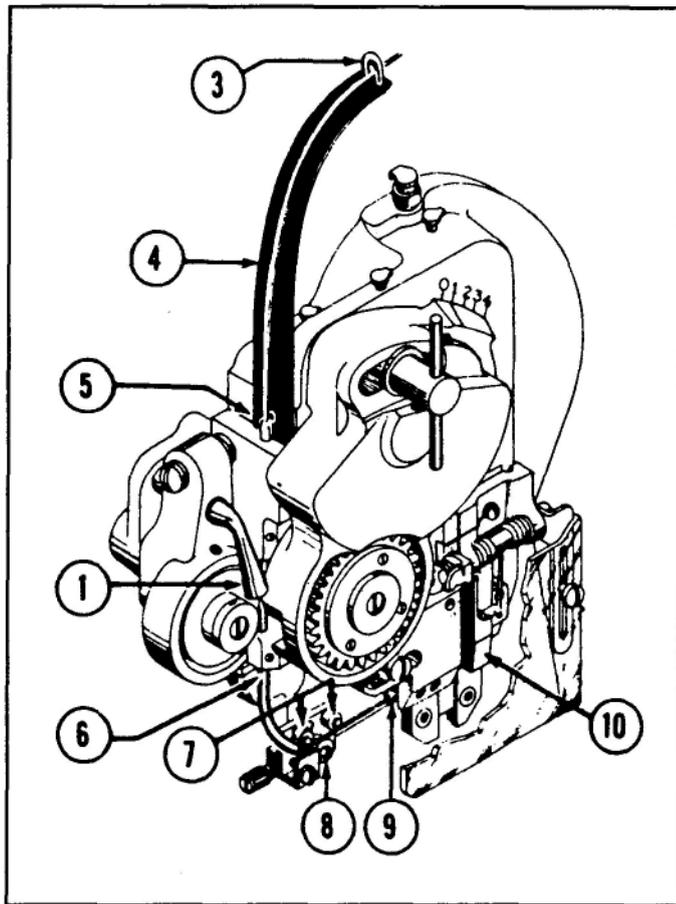

Figure 2 — Threading Wire on Head
1. HOW TO THREAD WIRE ON HEAD (See Fig. 2)
a. Raise oiler retainer (not shown) on spring wire guide and disengage wire feed gears by raising (to the left) the gear throwout handle (1) to its open position.